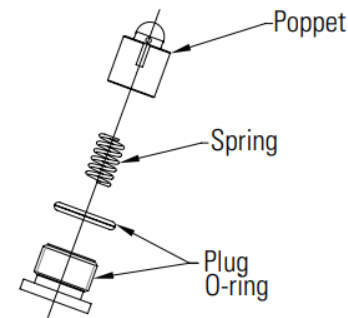

Figure 39 Low Pressure Relief Valve Parts
3. Add low pressure relief valve components poppet and spring (select pressure setting based on applications) as shown in Figure 39